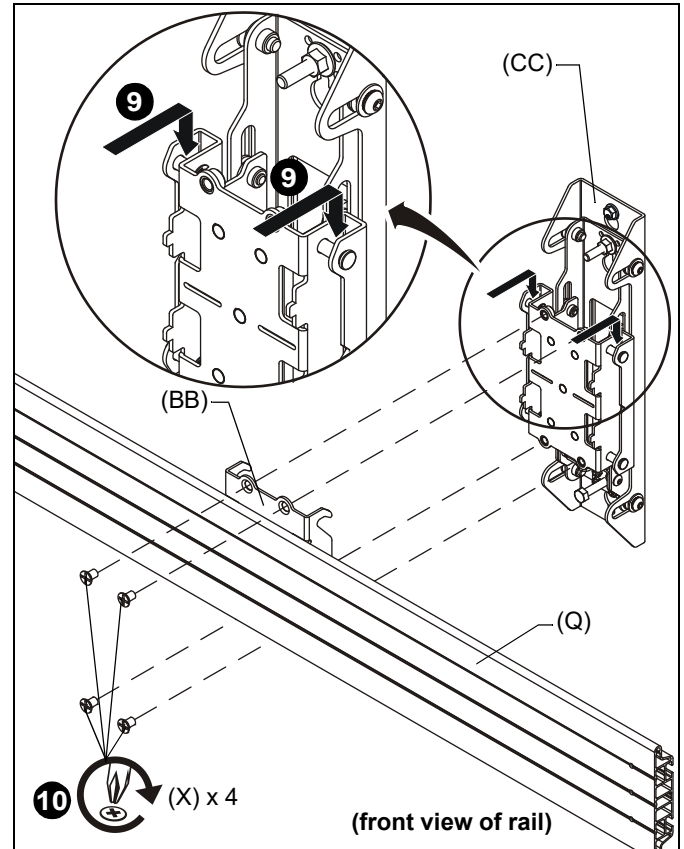

Figure 22
9. Hook height adjust plates (BB) over wall uprights (CC or DD). (See Figure 22)
10. Fasten mounting rail (Q) to wall uprights using four 5/16 x 1/2" Phillips flat head screws (X) through height adjust plate (BB) and into wall uprights (CC or DD) and tighten all screws. (See Figure 22)